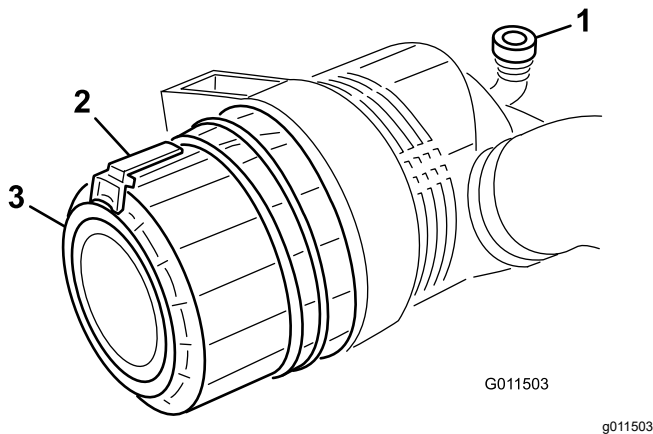

Figure 73
1. Pull the latch outward and rotate the air-cleaner cover counterclockwise (Figure 73).